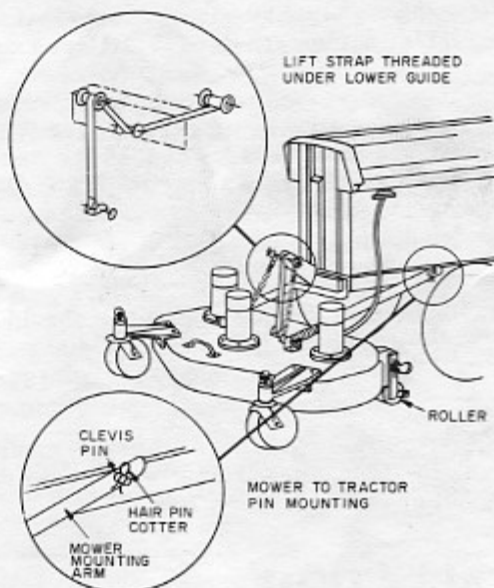

Figure 4
To attach the mower, refer to Figure 4 and take the following steps:
cotters supplied with the tractor. (See insert, Figure 4.)
3. Thread the lift strap under the lower guide and over the front guide as shown in the insert Figure 4. Attach it to the mower lift clevis.